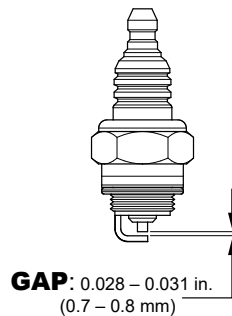

Figure 33. Spark Plug Gap
3. Remove and clean the spark plug (Figure 33), then adjust the spark plug gap to 0.028–0.031 inch (0.7–0.8 mm). This unit has electronic ignition, which requires no adjustments.